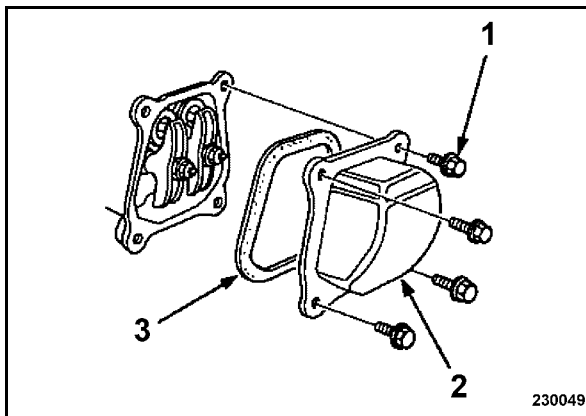

Fig. 58
- Loosen the screws (1) (Fig. 58) and take off the valve cover (2) with gasket (3).